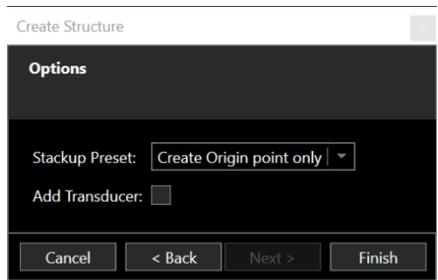

FIGURE 20 CREATE STRUCTURE – OPTIONS
4. Click Next to open Options dialog, see Figure 20.